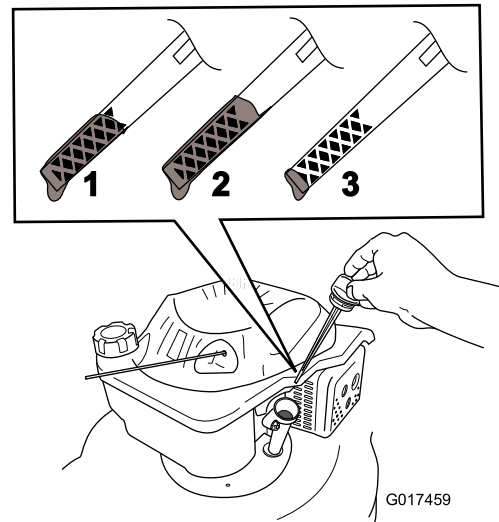

Figure 39
8. Remove the dipstick and read the oil level on the dipstick (Figure 39).